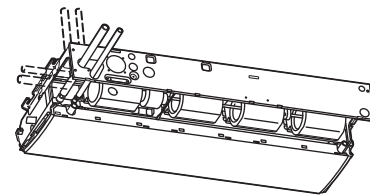

Fig. 3-30
- The positions of the refrigerant tubing connections are shown in the figure below. (The tubing can be routed in 3 directions.) (Fig. 3-30)
- \* If the drain hose is routed through the left side, refer to Fig. 3-30, and follow the procedure above to install the hose. Reattach the rubber stopper removed earlier onto the right side.